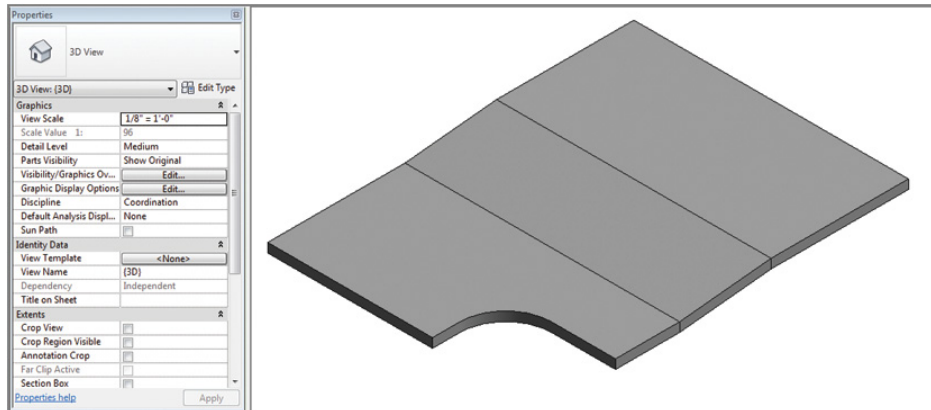

FIGURE 3.7 Completed sloped floor
4. Finish the sketch, and return to your default 3D view (Figure 3.7), which shows the finished condition. Now the sloped floor connects the lower and upper floors.